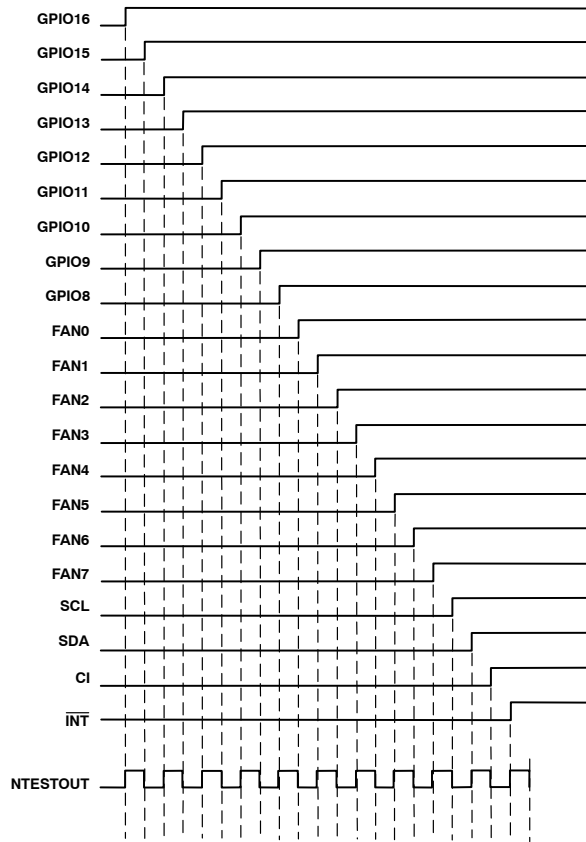

Figure 56. NAND Tree Test Taking Inputs High in Turn
1. Start with all inputs low and take them high in turn, starting with the input nearest to $\overline{\text{NTEST_OUT}}$ (GPIO16/ $\overline{\text{THERM}}$) and working back up the tree to the input furthest from $\overline{\text{NTESTOUT}}$ ($\overline{\text{INT}}$). This should give the characteristic output pattern shown in Figure 56, with $\overline{\text{NTESTOUT}}$ toggling each time an input is taken high.